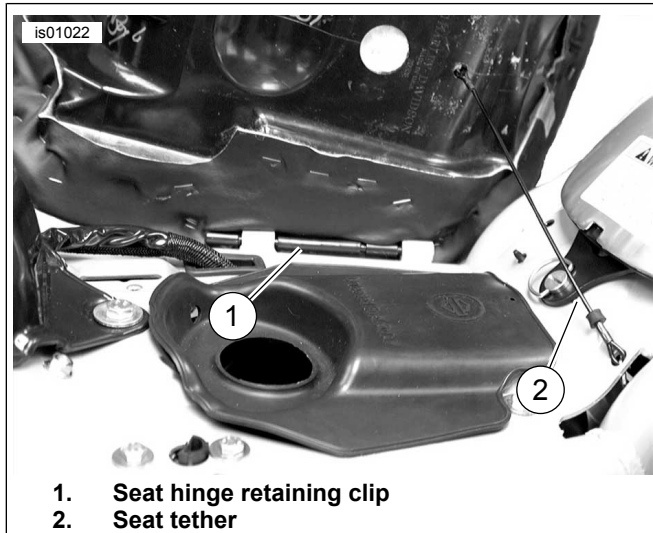

Figure 1. Remove Seat
2. See Figure 1. Remove the seat tether from the hole in the motorcycle frame.
24. See Figure 1. Install seat in reverse order of removal. Make sure both seat pins engage in their bushings on the frame. Make sure seat tether is installed to hole in frame.